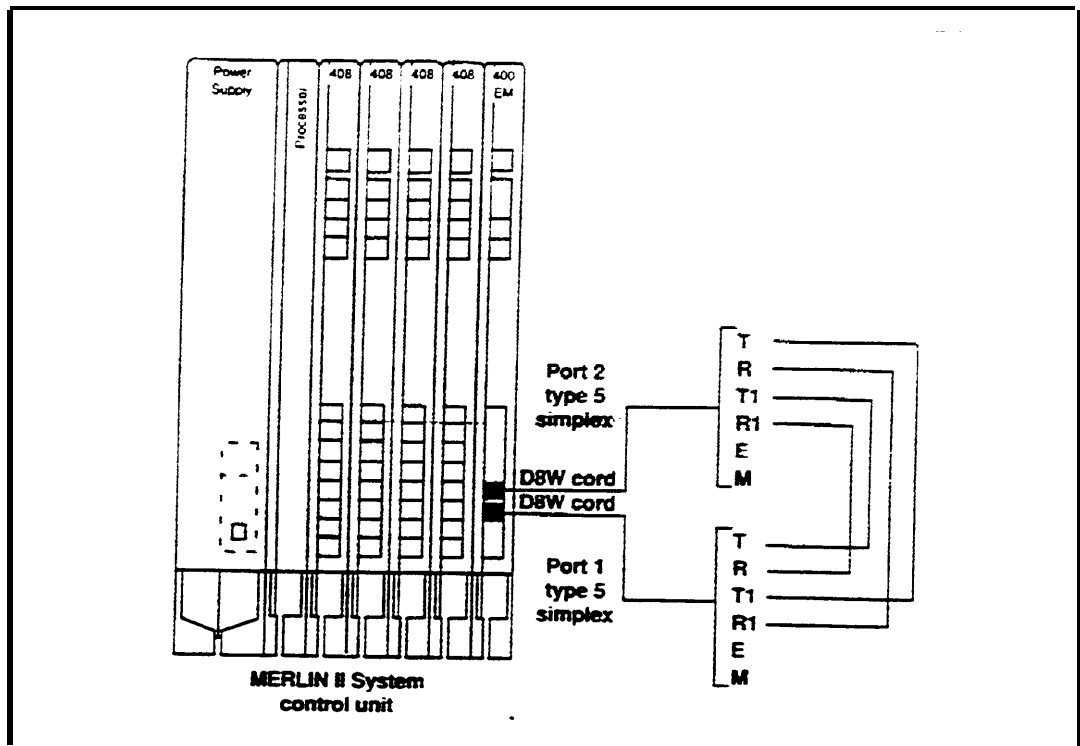

FIGURE 4-3 Cross-connect field for Type 5 Simplex
- 8 From the 66-type block, cross-connect the line port 1 to one of the ports you want to test (ports 2,3, or 4). See Figure 4-3.